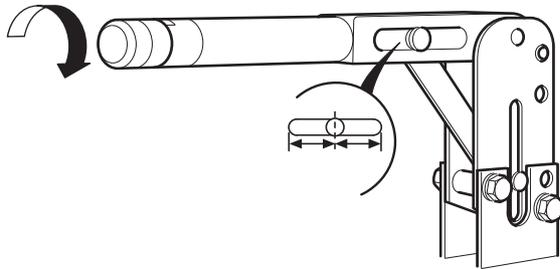

Fig 21.
- 2 Disengage the parking brake lever, (lever horizontal). Turn handle grip to bring pin central in its slot. → Fig 21. (□ G-23).